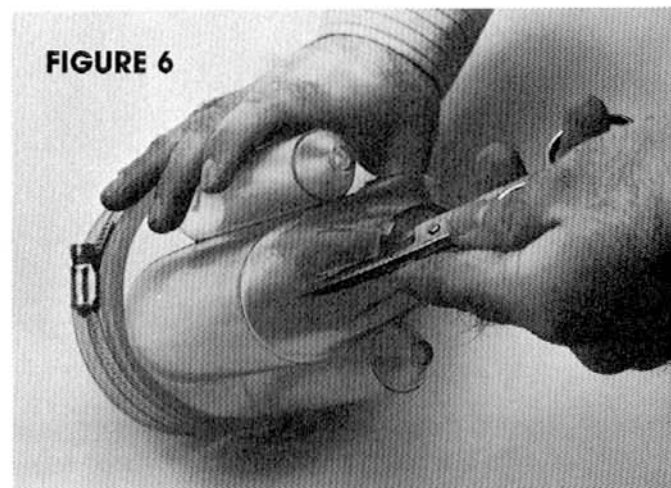

**FIGURE 5**
**1.04** Open and remove sheath from the drop wires and cables. (Fig. 5)